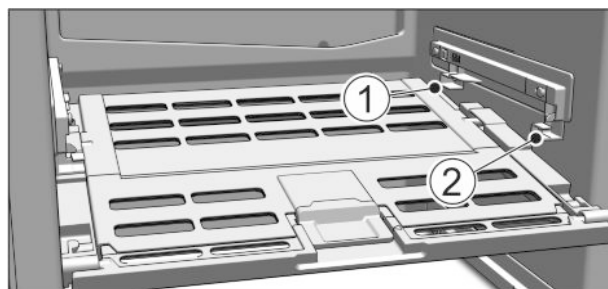

Fig. 16
► Replacing the Fruit & Vegetable safe cover: Guide the ridges on the cover into the rear brackets *Fig. 16 (1)* and click it into the front bracket *Fig. 16 (2)*.